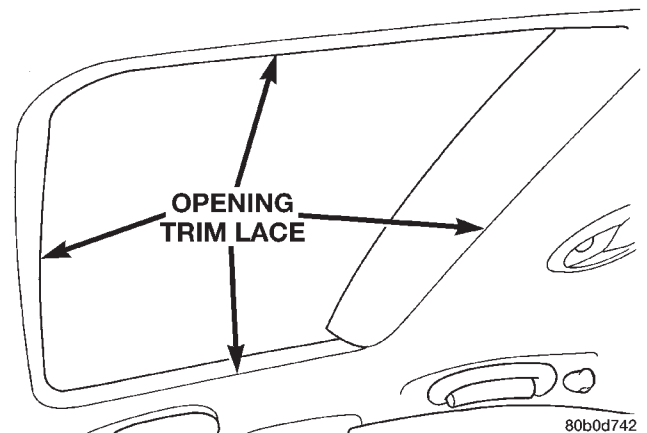

Fig. 5
- (1) Place the sunroof glass panel in the vent position.
- (2) Move the sunshade to the closed position
- (3) From the outside of the vehicle, using a flat blade tool, disengage the rear sunshade guides. Pushing the guide toward the center of the vehicle (Fig. 5). Raise up on sunshade and slide it rearward out through the opening. Release the front two guides and remove sunshade from the vehicle.